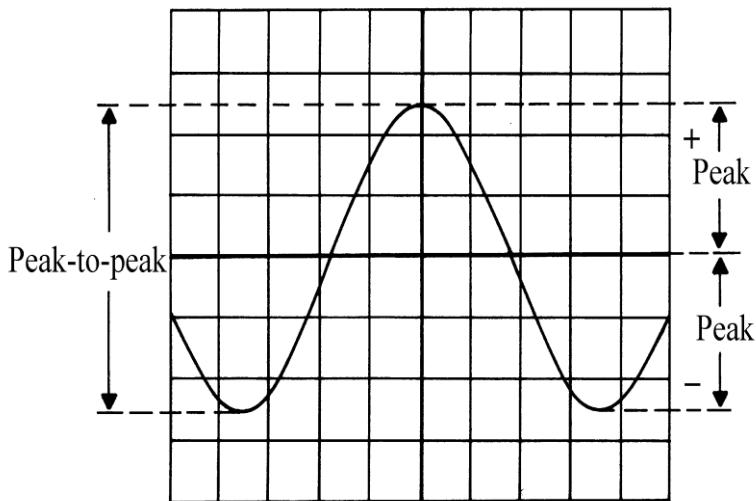

Figure 10
- Align the negative peaks of the input waveform with one of the horizontal graticule lines, by using the vertical position control. Align the positive peak with the centre vertical graticule line, by using the horizontal position control. See Fig. 10 illustration.
- As before, count the number of horizontal graticule divisions and sub-divisions from a negative peak on the horizontal graticule line, to the most positive peak as shown in Fig. 10. Use the formula below to determine peak-to-peak amplitude.